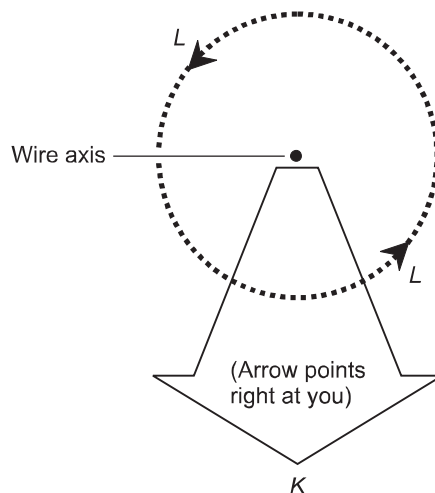

Fig. Exam-5. Illustration for Final Exam Questions 45 through 47.
45. Figure Exam-5 shows a current-carrying wire as viewed from right along its axis. The large, clear arrow marked *K* points directly at you, straight out of the page. The dashed circle represents
46. In Fig. Exam-5, suppose the magnetic flux flows counterclockwise. The conventional current
47. In Fig. Exam-5, what do the arrows marked L represent?